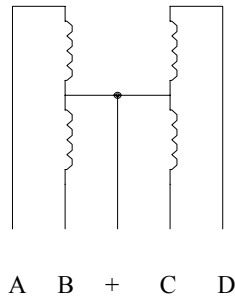
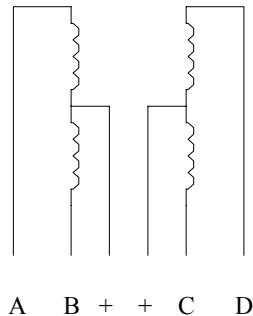

Fig 1. Five-wire stepper motor
Fig 2. Six-wire stepper motor
2. Unipolar motors. These have two center-tapped coils which are treated as four coils. These motors can have **five, six or eight** wires. Five-wire motors have the two center-taps commoned internally and brought out as one wire (Fig 1). Six-wire motors bring out each center-tap separately. The two center-taps need to be commoned externally (Fig 2). Eight-wire motors bring out both ends of each coil. The four “center-taps” are joined externally to form one wire. In each case the center-tap(s) are connected to a positive motor power supply. Unipolar motors may be connect as bipolar ones by not using the ‘+’ wires.